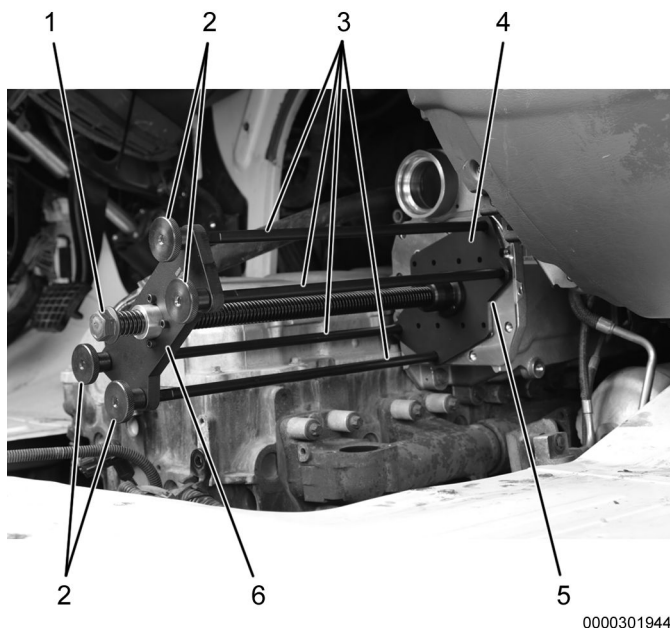

Figure 5. Puller Assembly Installation.
3. Install puller assembly (Figure 5, Item 6) onto four threaded rods (Figure 5, Item 3).
4. Install four thumb screws (Figure 5, Item 2), hand tight, onto four threaded rods (Figure 5, Item 3).
5. Tighten forcing screw (Figure 5, Item 1), hand tight, until removal plate (Figure 5, Item 4) is flush against HT EGR cooler core (Figure 5, Item 5).